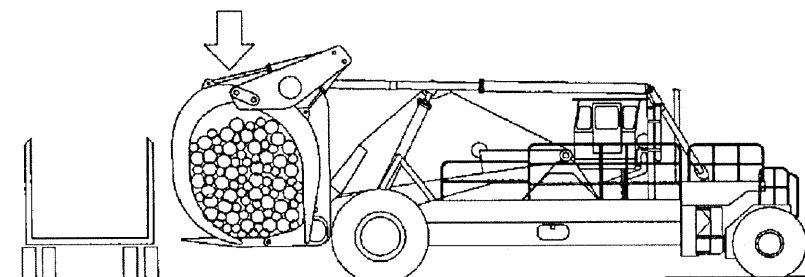

Fig 4-6
6. With the load clear of the vehicle, back away and lower the load to about 3 feet above the ground or just high enough to clear any obstructions on your way to the point of unloading. See Fig. 4-6.